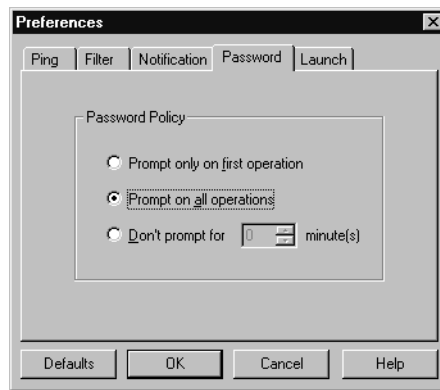

Figure 3-11. Password Dialog Box
- 5 Click the **Password** tab to display the Password dialog box, as shown in Figure 3-11.